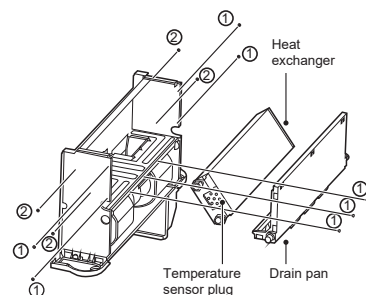

Figure 4-8 Removal of drain pan and heat exchanger
- g) As shown in Figure 4-8, remove screws ①*7 to take the drain pan out. Then, remove screws ②*4 to take the heat exchanger out.